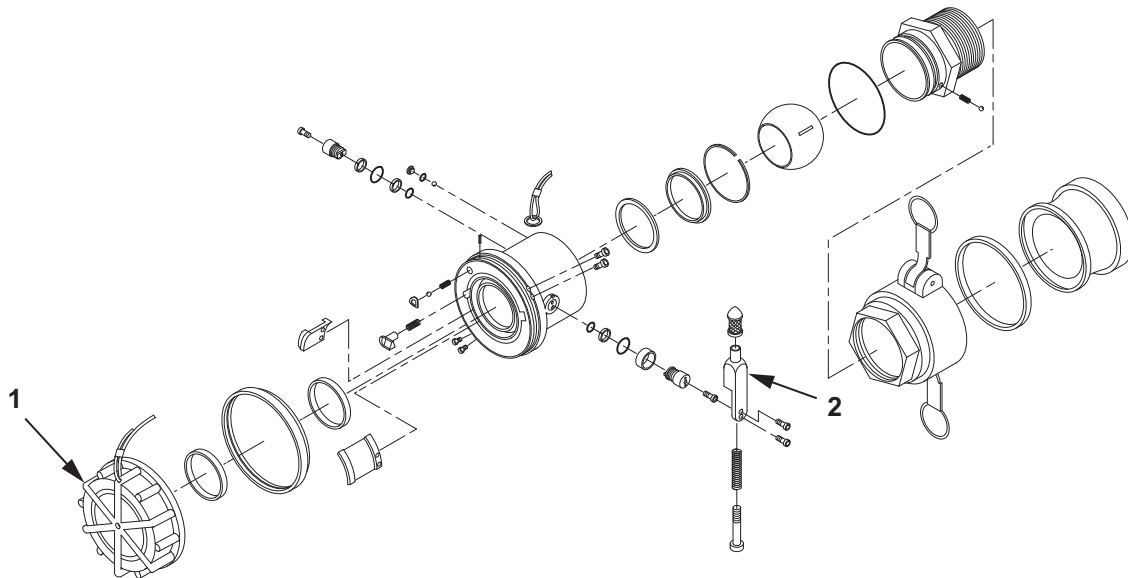

Figure 4. 4 In. Female Camlock X 3 In. Valved Dry-Break Adapter Assembly.
2. While the couplings are connected, rotate control arm (Figure 4, Item 2) to the open position and try to disconnect the couplings by rotating in a counterclockwise direction. If the couplings disconnect, then repair of the valved dry-break coupling assembly is required.
3. Close the control arm (Figure 4, Item 2) and disconnect the valved dry-break coupling assemblies by rotating the couplings in a counterclockwise direction.
6. With the control arm (Figure 4, Item 2) in the open position, apply pressure of 5 PSI (34.47 kPa) to the repaired valved dry-break coupling assembly.
10. Close the control arm (Figure 4, Item 2) and disconnect the repaired valved dry-break coupling assembly from the similar valved dry-break coupling assembly by rotating the couplings in a counterclockwise direction.
12. With the control arm (Figure 4, Item 2) in the closed position, apply pressure of 5 PSI (34.47 kPa) to the repaired valved dry-break coupling assembly.
15. Reduce pressure from the test system, remove repaired valved dry-break coupling assembly from the test system and install dust cap (Figure 4, Item 1).